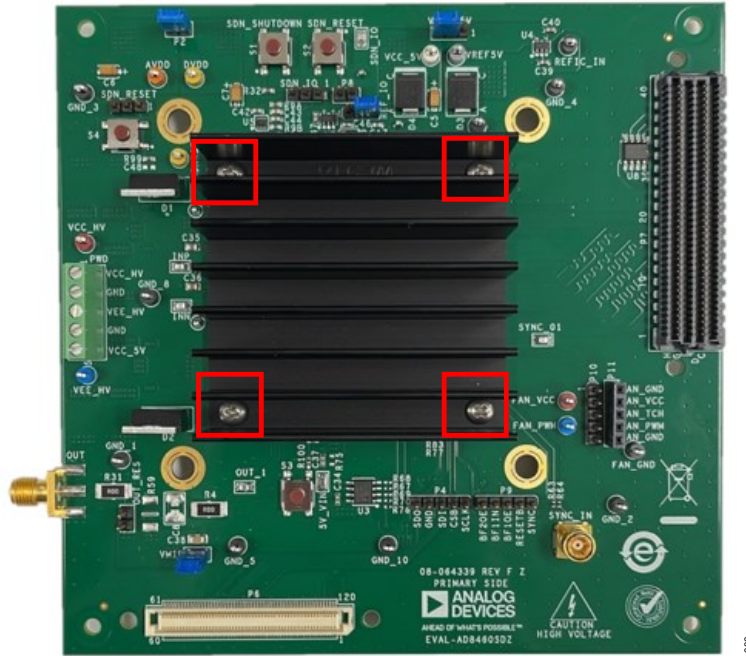

Figure 7. AD8460 Evaluation Board with Heat Sink
3. Mount the heat sink and secure four screws (PN 9902) onto the board with four hex nuts (PN HN55440), as shown in Figure 7. Use a torque screwdriver to alternatively tighten the four screws, alternating diagonally like tightening lug nuts on a car tire, to 6 in-oz on each.